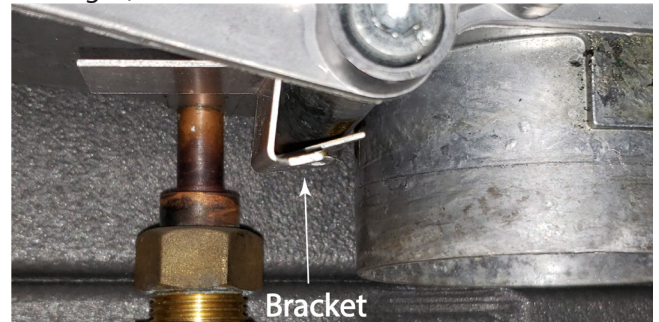

Fig. 6: Old style sensor bracket
3. Use a pair of plier to remove the old bracket (see Fig. 6). The bracket will not be reused.